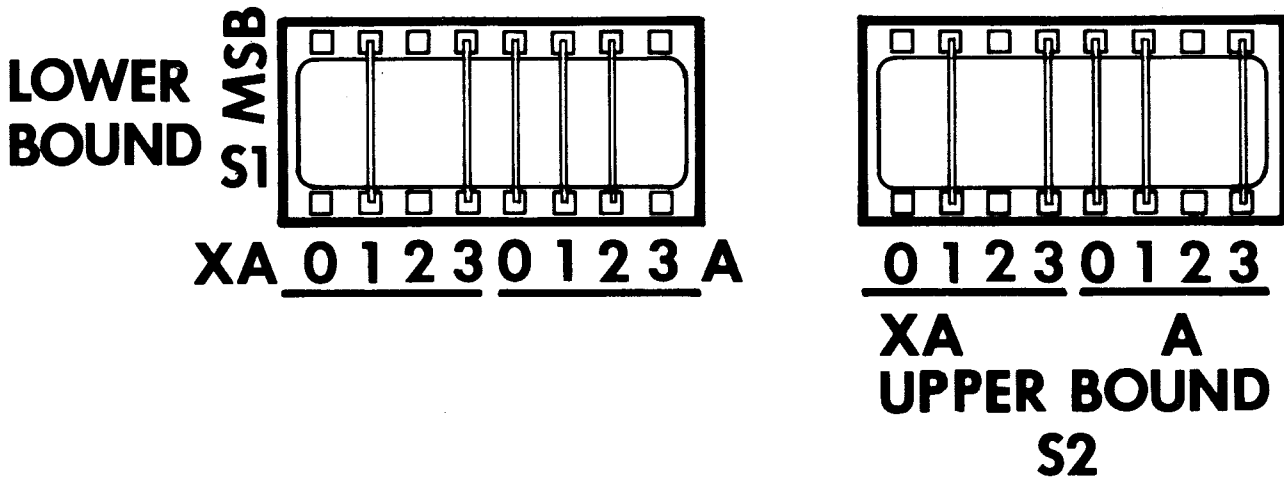

FIGURE 2-2. SWITCH S1 & S2 ADDRESS SELECTION (for examples)
- Platform S1-XA0 to S1-XA3 and S2-XA0 to S2-XA3 are ignored as jumpers J5 and J6 are set 2-1. The applicable halves of platforms S1 and S2 are shown properly jumpered in Figure 2-2.
The example system uses extended addressing with BLK0 and BLK1 populated with the eight K bytes of memory located between addresses  $A1000_{16}$  and  $A2FFE_{16}$ . The switch configuration is shown in Figure 2-2.